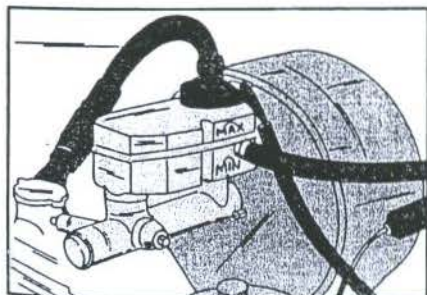

Fig. 7.21 – The fitted brake master cylinder.
- Unscrew the cylinder. A rubber sealing ring is inserted between cylinder and brake servo unit. Take care to collect it. Fig. 7.21 shows the cylinder as it is fitted to the brake servo unit.